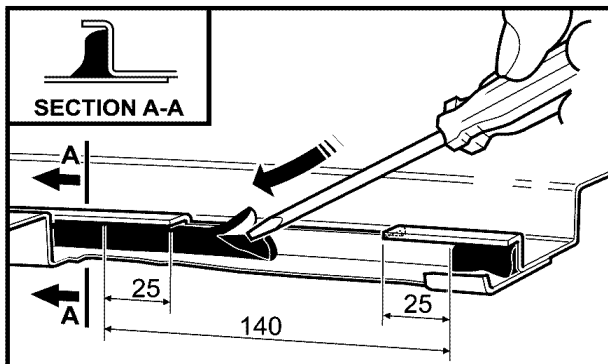

FIGURE 2
2. Inspect the area where the roof bars are fitted. If there is excessive body sealant (refer to section AA of figure 2), remove the ditch mouldings and use a screw driver to remove the sealant from the area as shown. Repeat for all four roof bar mounting points.